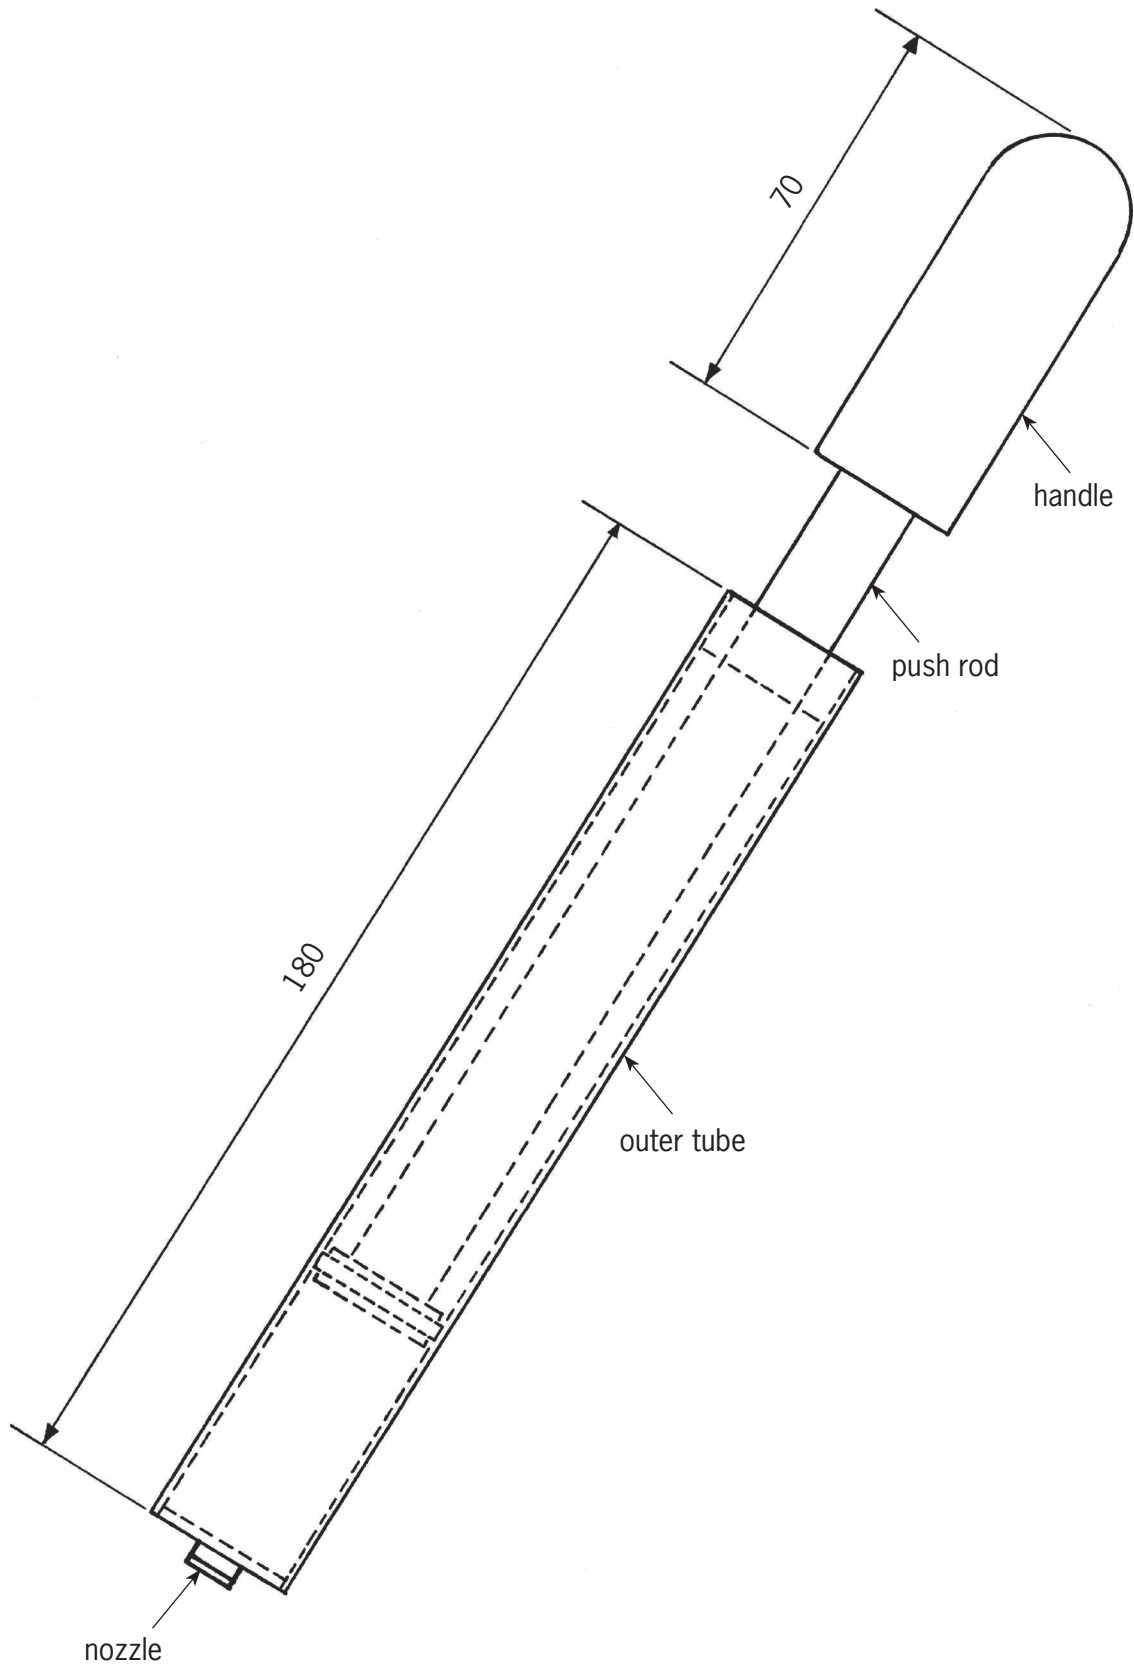

Figure 15: A bicycle pump
- A drawing of a bicycle pump is shown on the opposite page (Figure 15). Make a scale drawing of this drawing by scaling it down.